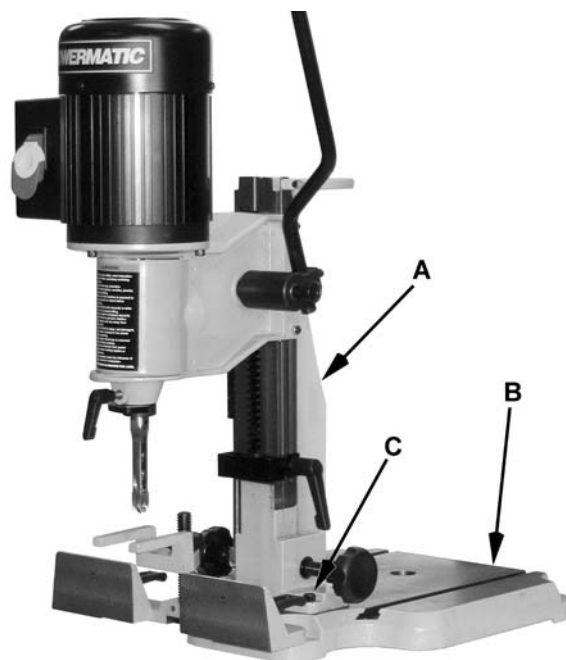

Figure 15
Referring to Figure 15:
1. Using a 4mm hex wrench, remove four screws, *lock washers* and *flat washers* (C) **Note:** only one screw is visible in Figure 15.
2. Rotate the *column* (A) 180°.